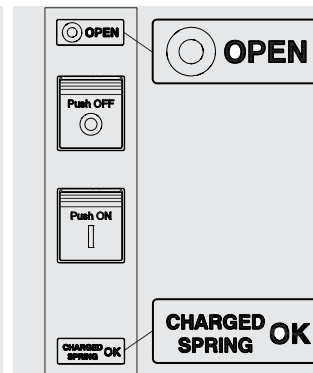

Figure 82
2. Circuit-breaker open with springs charged (see Figure 82).